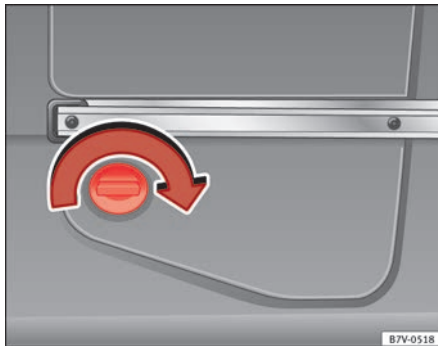

Fig. 164 At the rear left of the luggage compartment: AdBlue tank, behind a cover panel.
- Rotate the shut off on the cover clockwise ⇒ fig. 164 and open the cover forwards.